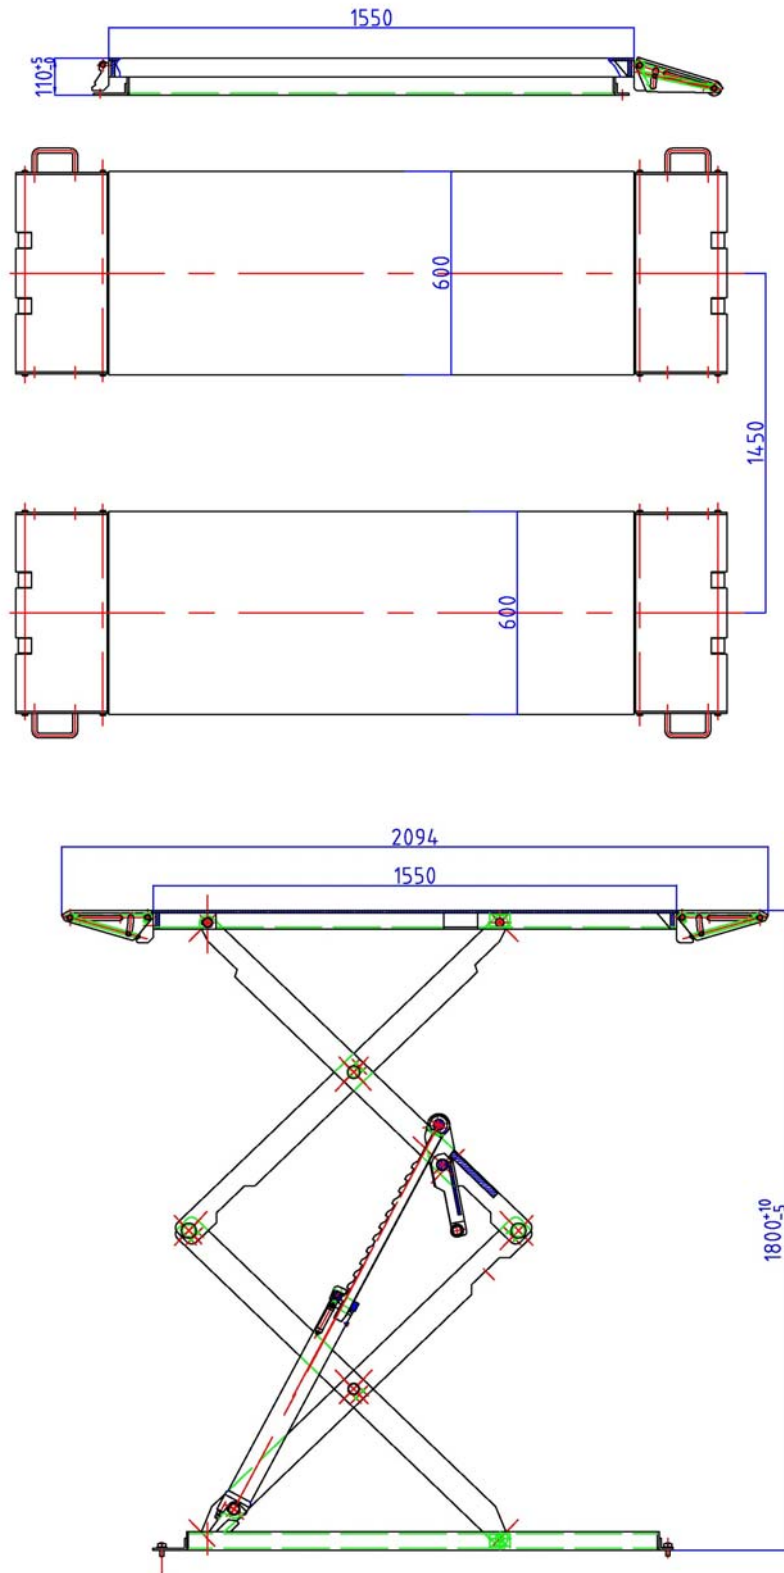

Fig. 1
1. Keep the lift about 1 meter or more away from the wall. It is for sufficient work space. (Fig.1 & 2)
3. Position the platforms according to the data in Fig1 (Fig. 4).